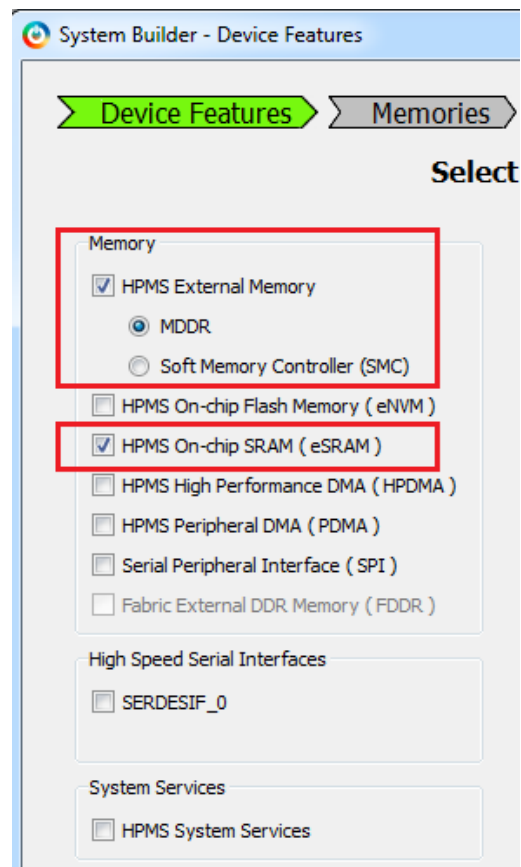

Figure 4 • System Builder - Device Features
2. Click the **Device Features** tab in the **System Builder** window. Figure 4 shows the **System Builder - Device Features** window.
3. Select the **HPMS External Memory** and **HPMS On-Chip SRAM (eSRAM)** check boxes under **Memory**, as shown in Figure 4.